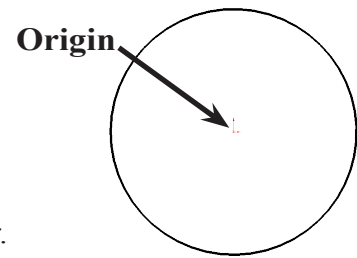

Fig. 2
Step 3. Click **Circle**  (S) on the Sketch toolbar.
Step 4. Draw a circle starting at the Origin , **Fig. 2**.